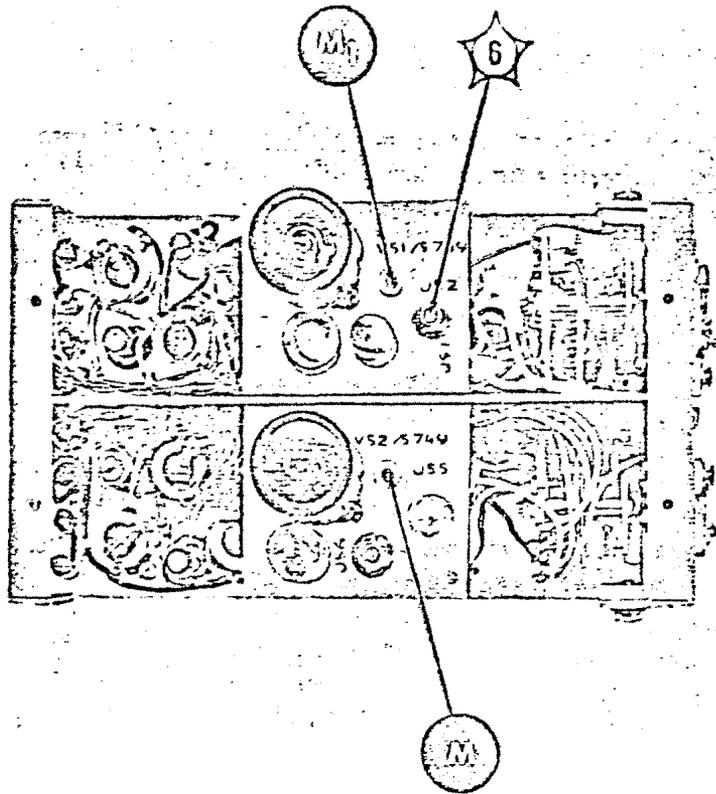

Figure 5-18. Preselector (R-F Subassembly), Top View, Location of Test Points
a. GENERAL. - The preselector consists of the first and second r-f stages and the first conversion mixer. Faulty operation of the preselector can reduce the strength of received signals or prevent reception. Figure 5-11 is a functional schematic diagram of the preselector. Figures 12 through 5-17 show the location of parts, and figures 5-18 through 5-21 show the location of test points.